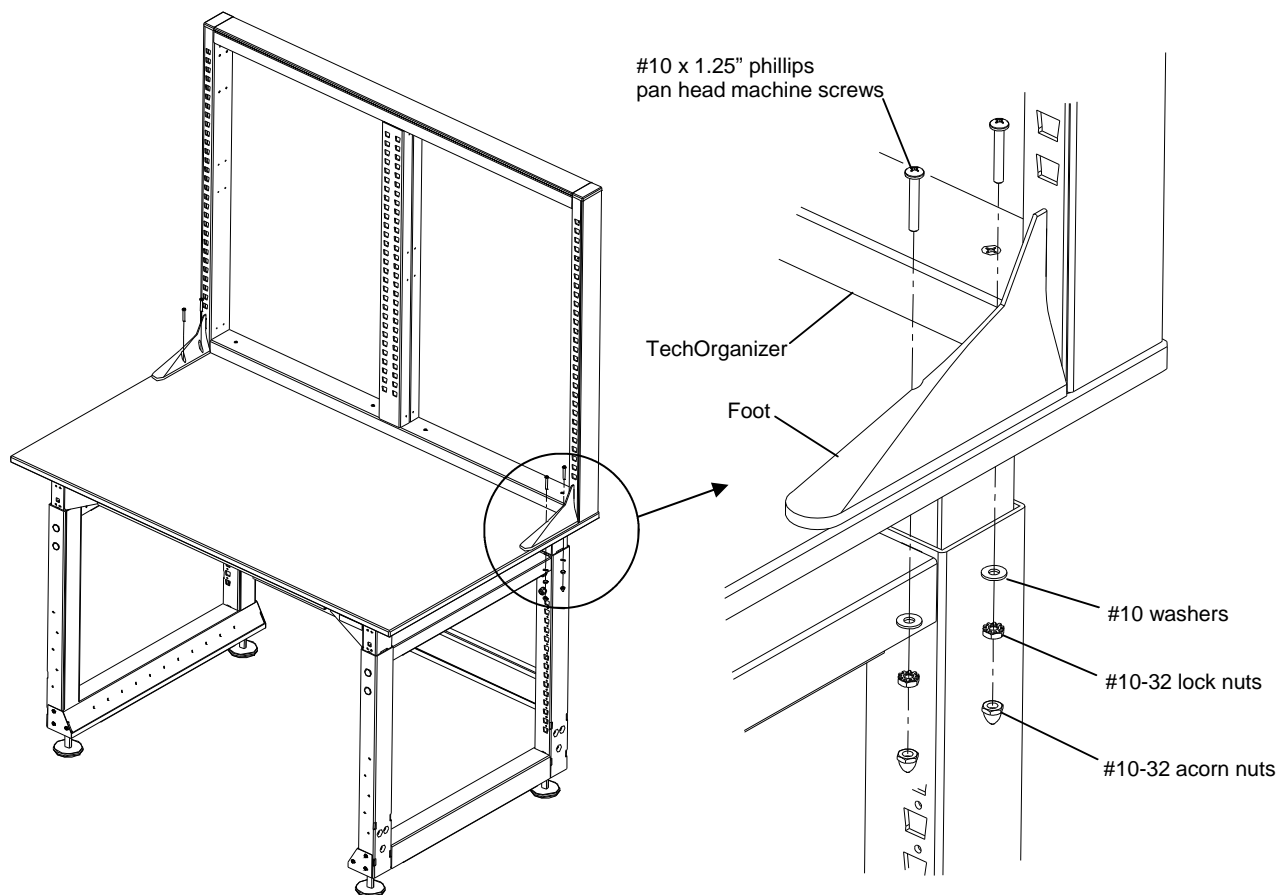

Figure 2.
4. Using the holes in the feet as a template, locate and drill four .218 dia. holes **thru** the worksurface. Attach the feet to the worksurface using the four #10 x 1.25" phillips pan head machine screws, #10 washers, #10-32 lock nuts and #10-32 acorn nuts provided. See figure 2.